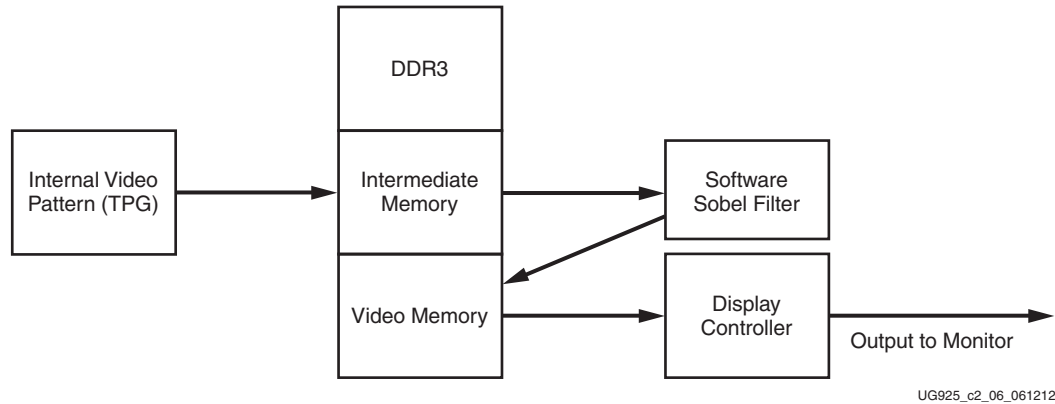

Figure 2-6: Video Processing and Display Pipeline Data Flow
2. The TPG creates and writes the pattern in intermediate DDR memory. The software Sobel filter reads the intermediate DDR memory, detects the edge, and writes the filtered image in the reserved video memory in DDR. The display controller displays video memory (filtered TPG pattern). See Figure 2-6.